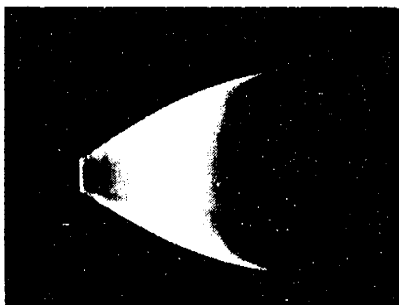
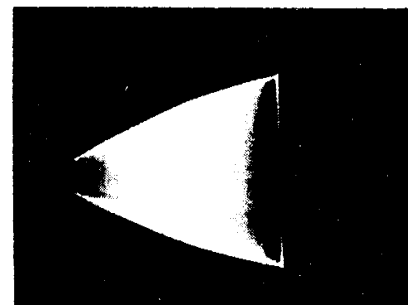

Figure 3-4. Correct Handling, as indicated by a Trapezoidal Pattern.
Figure 3-5. Incorrect Handling, as indicated by a Trapezoidal Pattern.
- f. If the scope pattern appears to have a well defined limit point in the direction of negative modulation, as shown in Figure 3-4, the Volumax output is connected properly, that is, controlling the negative modulation peaks. If however, no distinct limiting is evident on the negative modulation peaks, but does show up in the positive direction as in Figure 3-5, the output leads of the Volumax must be reversed.